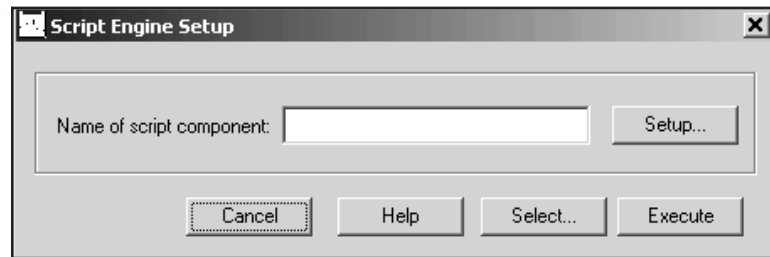

Figure 127 Script Engine Setup
The Script Engine Setup (Figure 127) lets you specify a Visual Basic® or Java® script to execute on the currently opened datasource. This lets you perform custom operations within the Genie 2000 Acquisition and Analysis environment.
- Enter the script's name in the Name of Script Component text box (Figure 127).